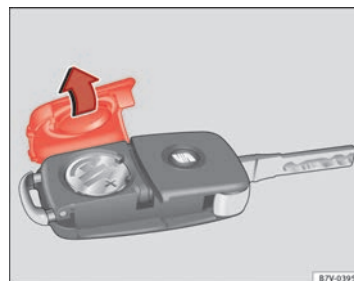

Fig. 43 Vehicle key: battery compartment cover
The battery is located to the rear of the vehicle key, under a cover ⇒ Fig. 43.
- Remove the cover from the back of the vehicle key ⇒ Fig. 43 in the direction of the arrow ⇒ ①.
- Fit the battery compartment cover, pressing in the direction of the arrow as shown ⇒ Fig. 43 until it clicks into place.